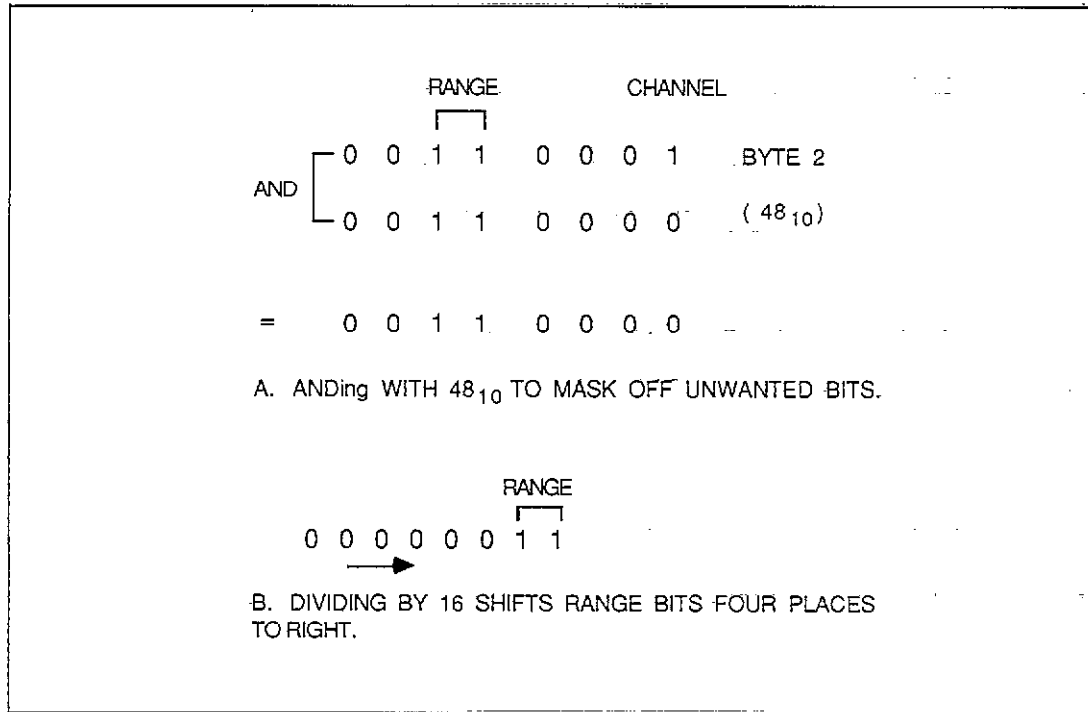

Figure 13. Converting Byte 2 Range Bits
8. The data is then scaled according to range by using the range information located in byte 2 of the status word. Since this range information is located in the most significant nibble, it must be converted by ANDing with 48 and then dividing by 16. Figure 13 outlines this conversion process.